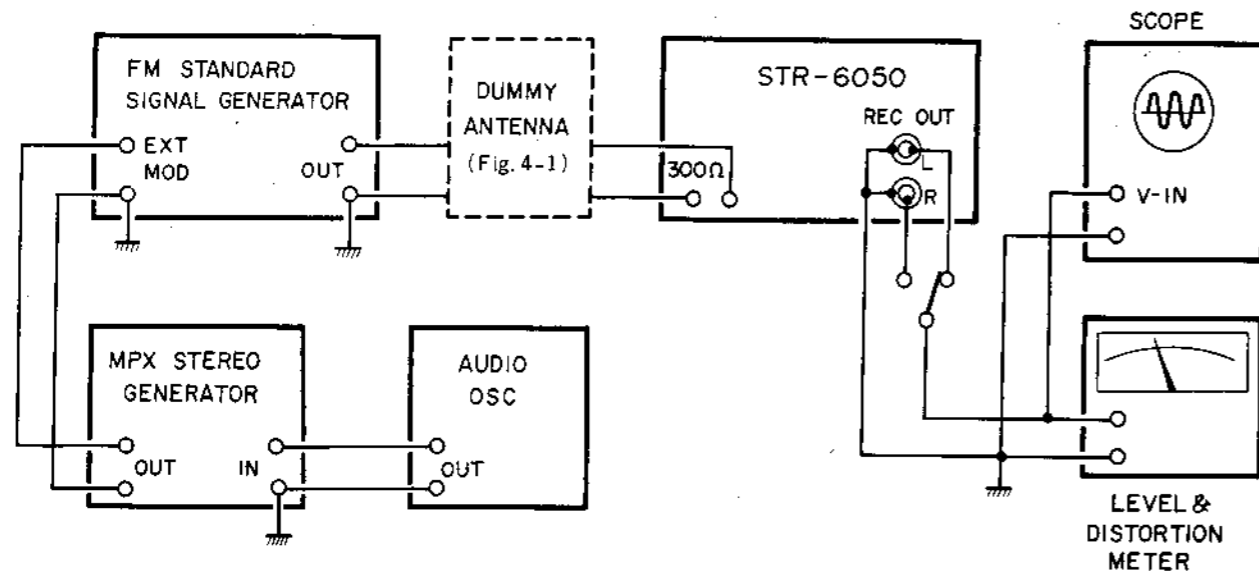

Fig. 4-4 Overall Adjustment Test Set-up
- Connect the equipment as shown in Fig. 4-4.
- Connect the equipment as shown in Fig. 4-4, set the fm signal generator as follows:
- With the equipment connected as shown in Fig. 4-4, set the MPX stereo generator controls as follows:
- With the equipment connected as shown in Fig. 4-4, set the signal generator's and receiver's controls to the positions described in the stereo distortion check, Section 4-4.